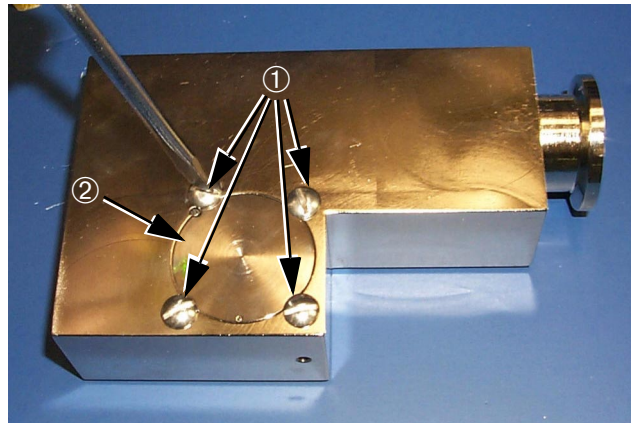

Figure 5-16 Magnetic Pole Piece
21. Remove the four (4) straight screws ① to free the magnet pole piece ② (Figure 5-16).